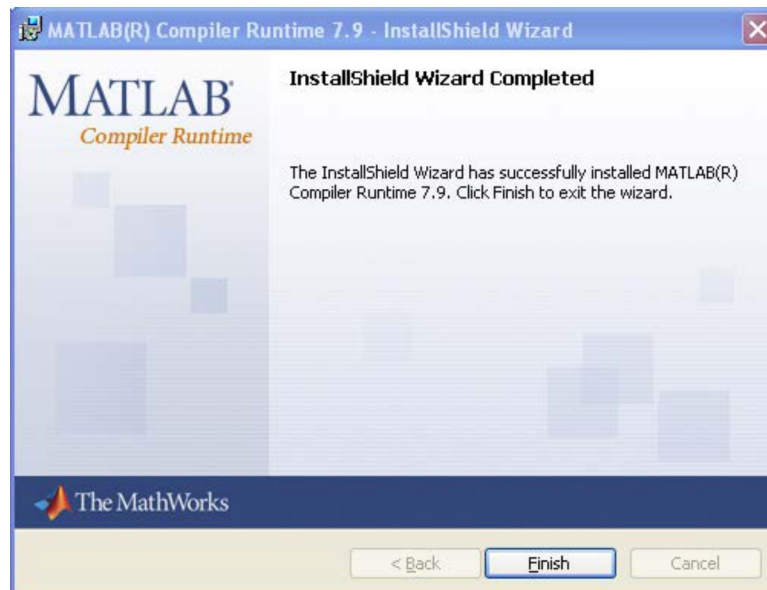

Figure 7. MCR GUI, Finish Screen
5. You will receive a *Finish* screen similar to Figure 7 when the Installer GUI and the MCR installation is complete.